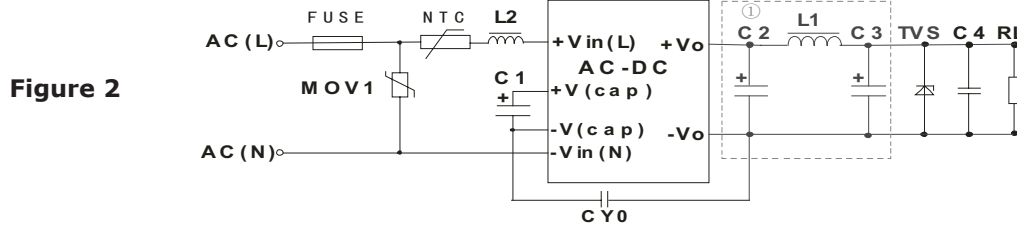
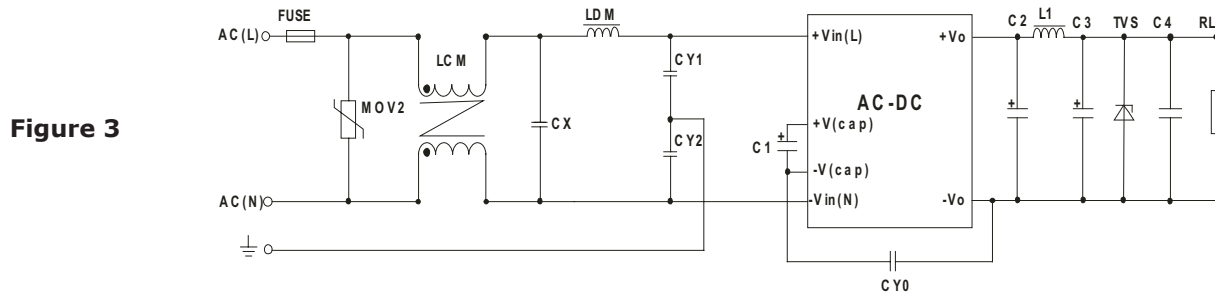

Figure 2
Figure 3
conducted emissions	CISPR32/EN55032 external circuit required, Class A (see figure 2); Class B (see figure 3)
radiated emissions	CISPR32/EN55032 external circuit required, Class A (see figure 2); Class B (see figure 3)
radiated immunity	IEC/EN61000-4-3 Class A, 10V/m (external circuit required, see figure 3)
EFT/burst	IEC/EN61000-4-4 Class B, $\pm 2$ kV (external circuit required, see figure 2)
IEC/EN61000-4-4 Class B, $\pm 4$ kV (external circuit required, see figure 3)
surge	IEC/EN61000-4-5 Class B, $\pm 1$ kV/ $\pm 2$ kV (external circuit required, see figure 3)
conducted immunity	IEC/EN61000-4-6 Class A, 3 Vr.m.s (external circuit required, see figure 3)
voltage dips & interruptions	IEC/EN61000-4-11 Class B, 0%-70% (external circuit required, see figure 3)
6. For standard EMC requirements, please refer to figure 2. If a higher EMC is required, please refer to figure 3.